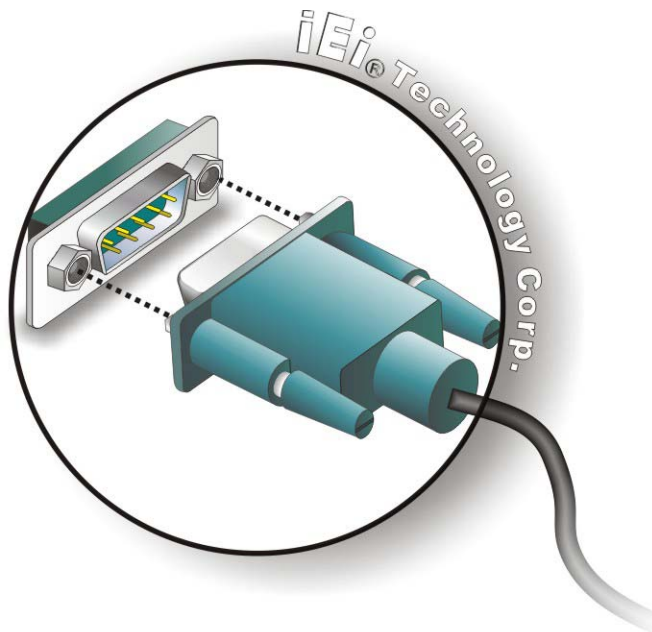

Figure 5-26: Serial Device Connector
Step 2: **Insert the serial connector.** Insert the DB-9 connector of a serial device into the DB-9 connector on the external peripheral interface. See Figure 5-26.